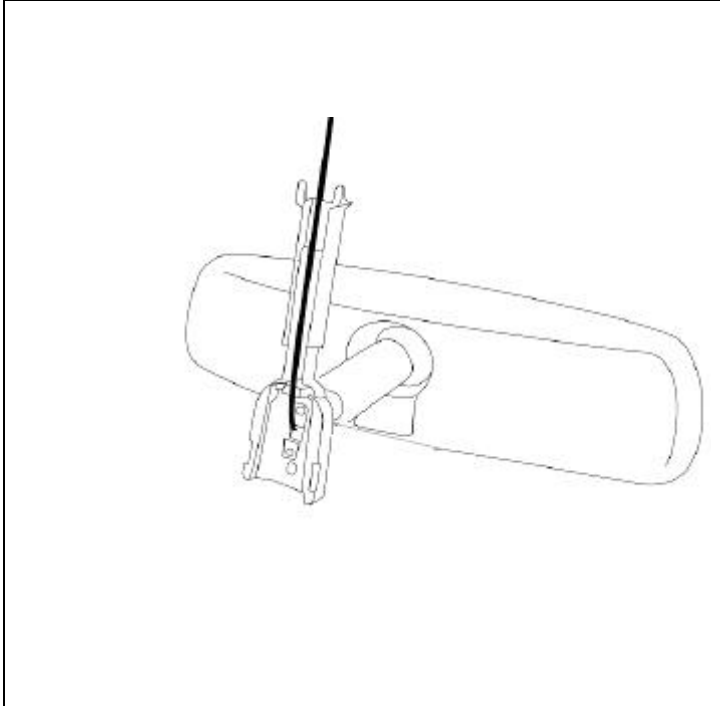

Figure 13a
13. Install the wire harness cover over the wire harness. Seat the bottom of the cover securely to base of the mirror. Extend the top of the cover fully into headliner. See figure 13a and 13b.